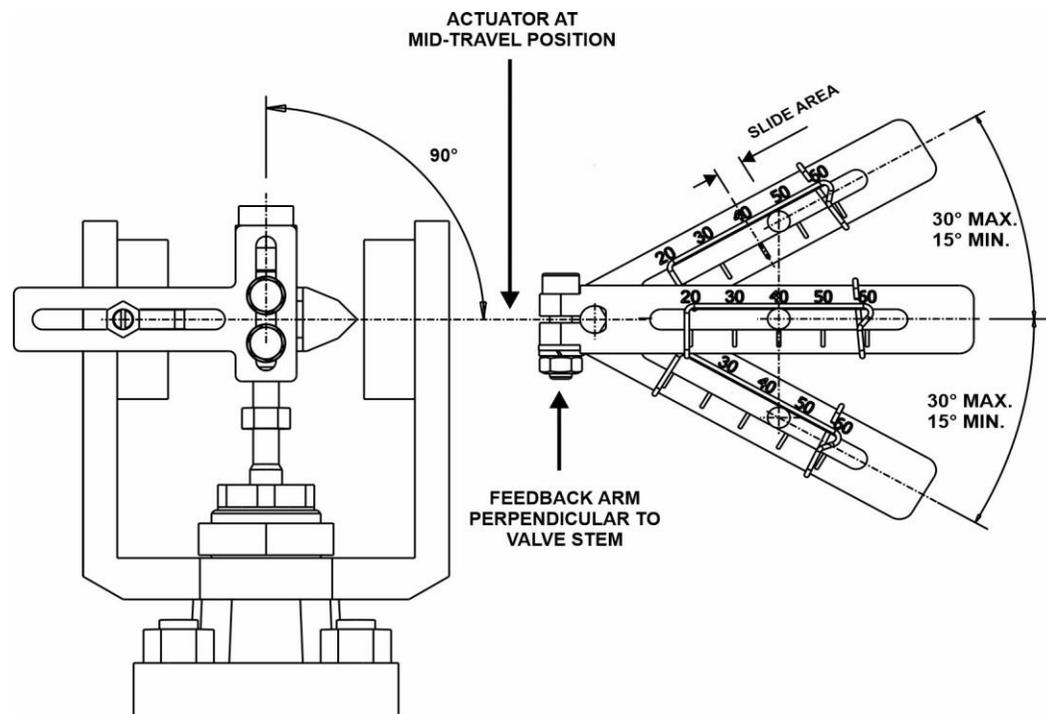

Figure 1.17 – Admissible range – linear mounting bracket
- With the actuator at its mid-travel position, adjust the mounting bracket location vertically so that the feedback arm is perpendicular to the stem, as shown in figure 1.17.
- Stroke the actuator from the top stop to the bottom stop. Travel indicator must travel within the admissible range. See figure 1.17.